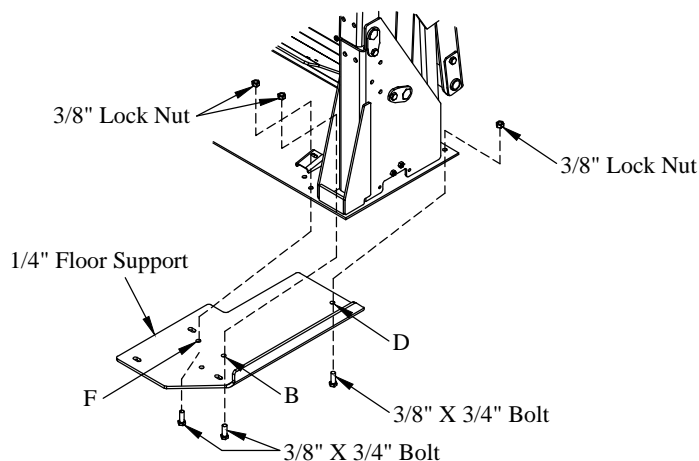

Figure 10: Floor support locations.
5. **Install** the 1/4" floor supports using the supplied 3/8" x 3/4" bolts and lock nuts (Figure 10).